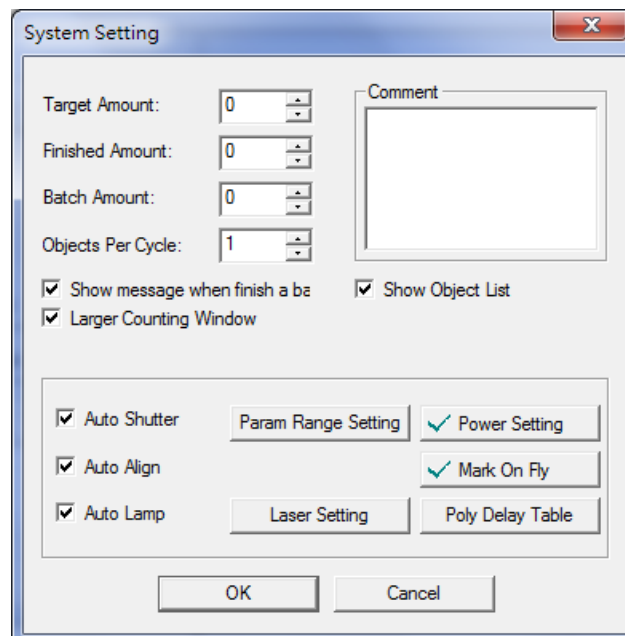

Fig. 1.6.02
**System Setting:** Set the marking related parameters, see Fig.1.6.02. Some parameters are the same as parameters of System Property Table (Refer to 3.1.3), in this case, the followings only introduce the different parameters (red flames of Fig.1.6.02).
**Expected:** Display the expected marking amount. (This will be display only when setting the Target Amount value in “System Setting,” see Fig.1.6.02)